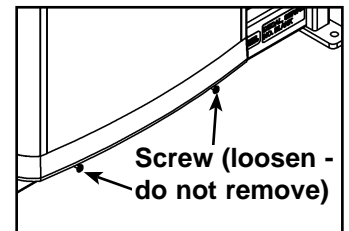

Figure 5
F. Loosen bottom two screws shown in Figure 5. **NOTE:** Do not remove the bottom two screws.